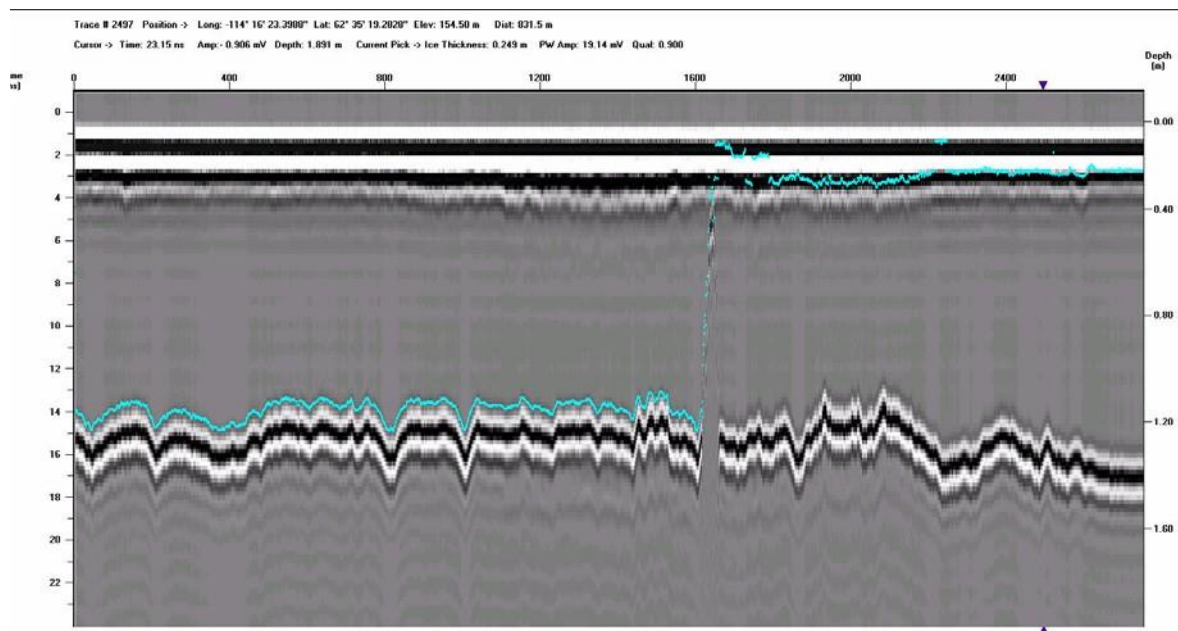

Figure 12-8: Poor picks can be improved by increasing the Start Time so the pick window does not include the strong signals at the surface.
For example, the software may pick a shallow reflector rather than the ice bottom reflection (Figure 12-8).
- In the Automatic Pick Options dialog (section 13.6.1), increase the **Time Window Start Time** to a value after the strong surface signals. In the example above Figure 12-8, setting the Start Time to 6 ns and then selecting the Pick option again will improve the picks.